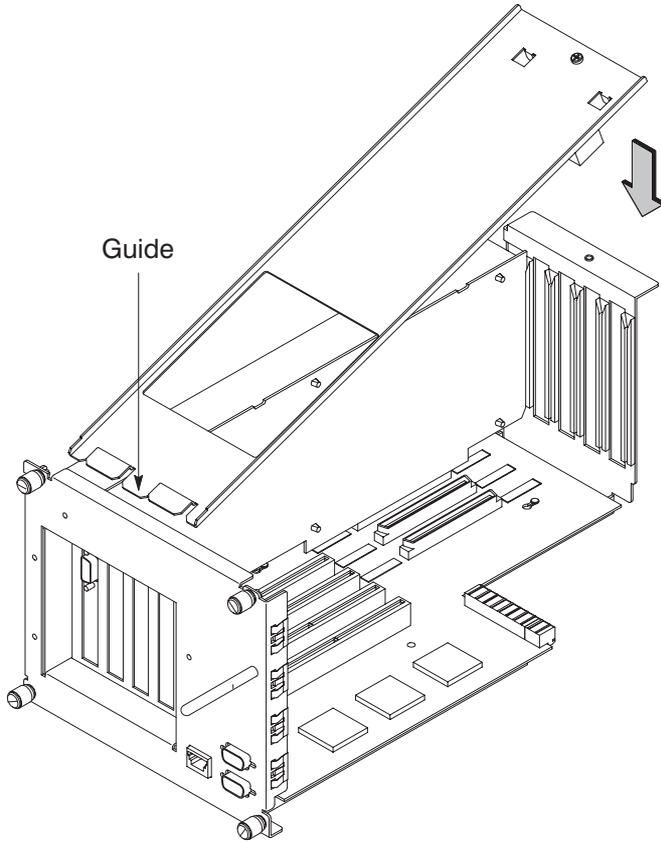

Figure 5-39. Replacing EISA Assembly Cover
9. Insert cover in guide and secure with screw. See Figure 5-39.